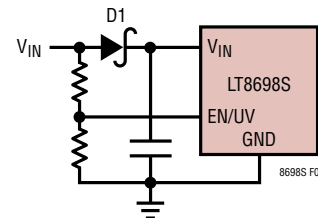

Figure 8. Reverse V_{IN} Protection
When operating with the output short circuited to a high voltage, such as an automobile battery, the current flow within the system will depend on the state of the LT8698S input supply V_{IN} . If V_{IN} is disconnected, such as may occur with the ignition switch in the off position, the LT8698S will draw approximately 2.5mA of quiescent current from the output if EN/UV is driven high and 0 μ A if the EN/UV is low. If V_{IN} is grounded or reverse connected, the body diode of the internal TOP power FET allows uncontrolled current flow from the output (SW) to the input (V_{IN}), potentially damaging the LT8698S. To prevent possible uncontrolled reverse current, see Figure 8.